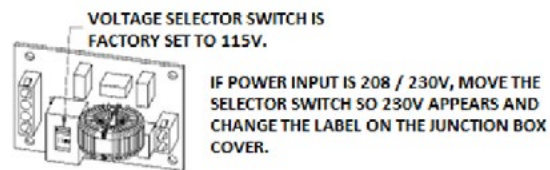

Figure 2. Wiring AC Power
Turn off AC power at the source (circuit breaker panel) before accessing the wires in the FoldSmart junction box. Follow facility Lock Out/Tag Out procedures. Make sure both the DC and AC power switches, on the side of the FoldSmart control box, are in the off position. See Figure 2.
Wiring of gate systems must conform to the NEC standards and comply with all local codes. If you plan to connect to 208/230VAC power, read the voltage selector switch WARNING. See Figure 2. The voltage selector switch on the AC Power board must be moved to the 230V position or damage to the operator will occur and void the Limited Warranty.
2. **Access the input power wires and service outlet wires by removing the two Phillips-head screws that secure the high voltage junction box cover. See Figure 2.**
4. **Access the input power wires by removing the two Phillips-head screws that secure the High Voltage Junction Box Cover. See "Figure 2. Wiring AC Power" on page 46.**